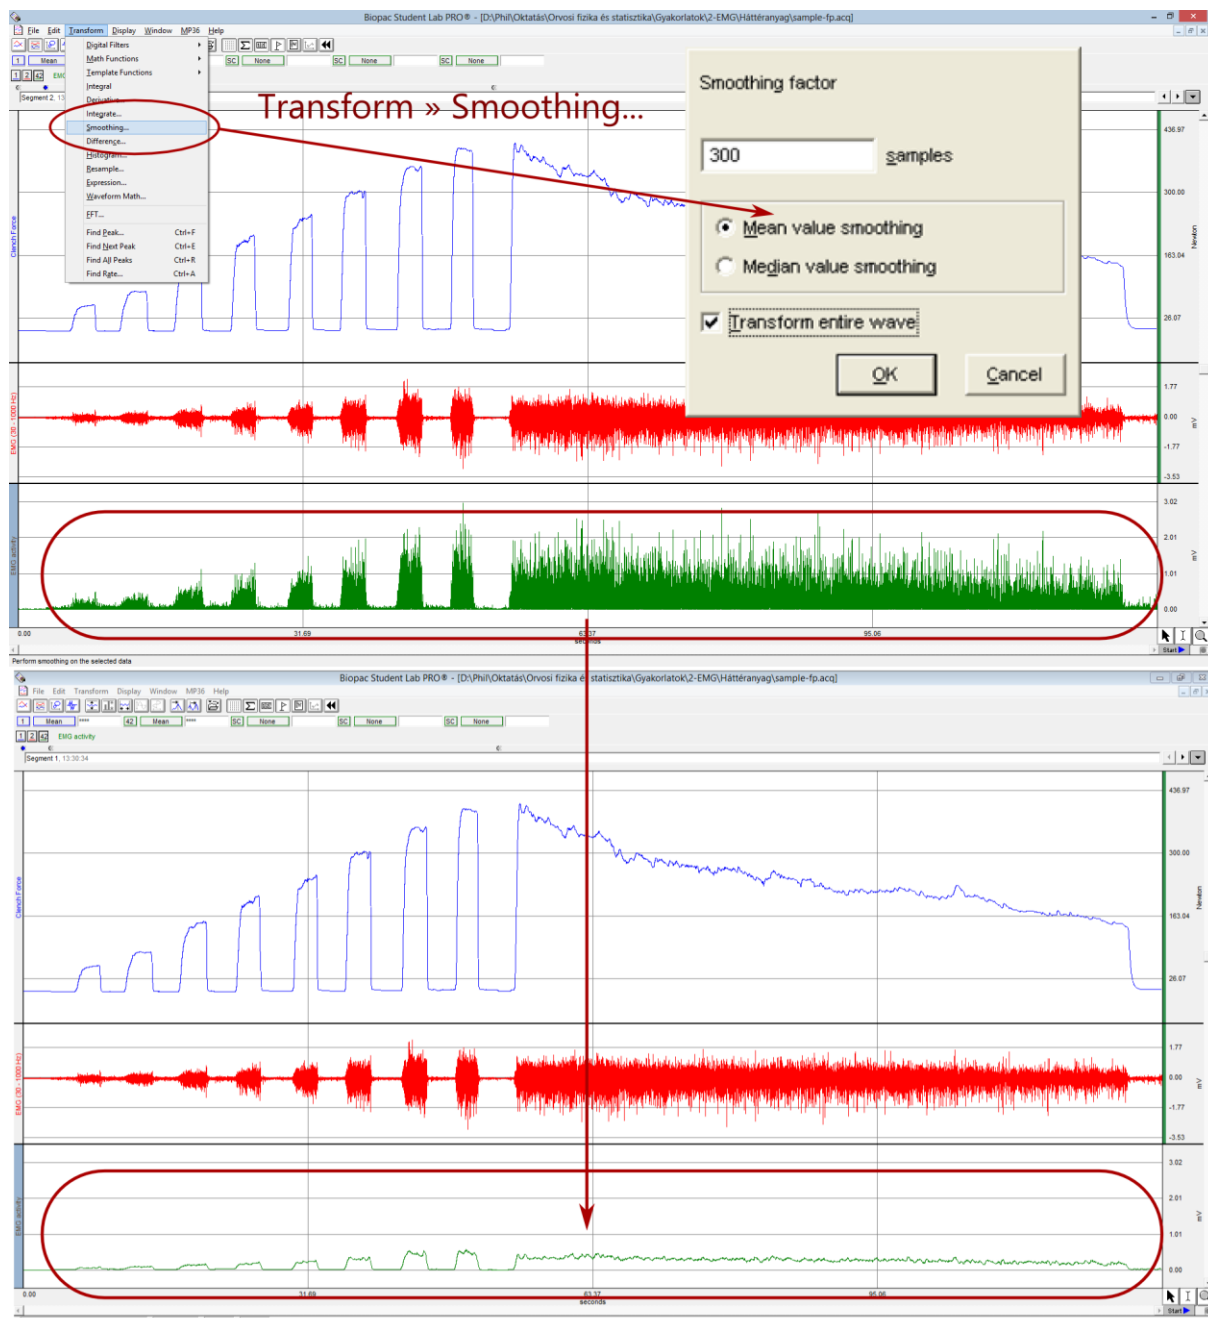

Figure 2. Reducing the noise of the EMG activity signal using smoothing.
- Reduce the noise of the EMG activity signal with a 300-point running average (Figure 2):